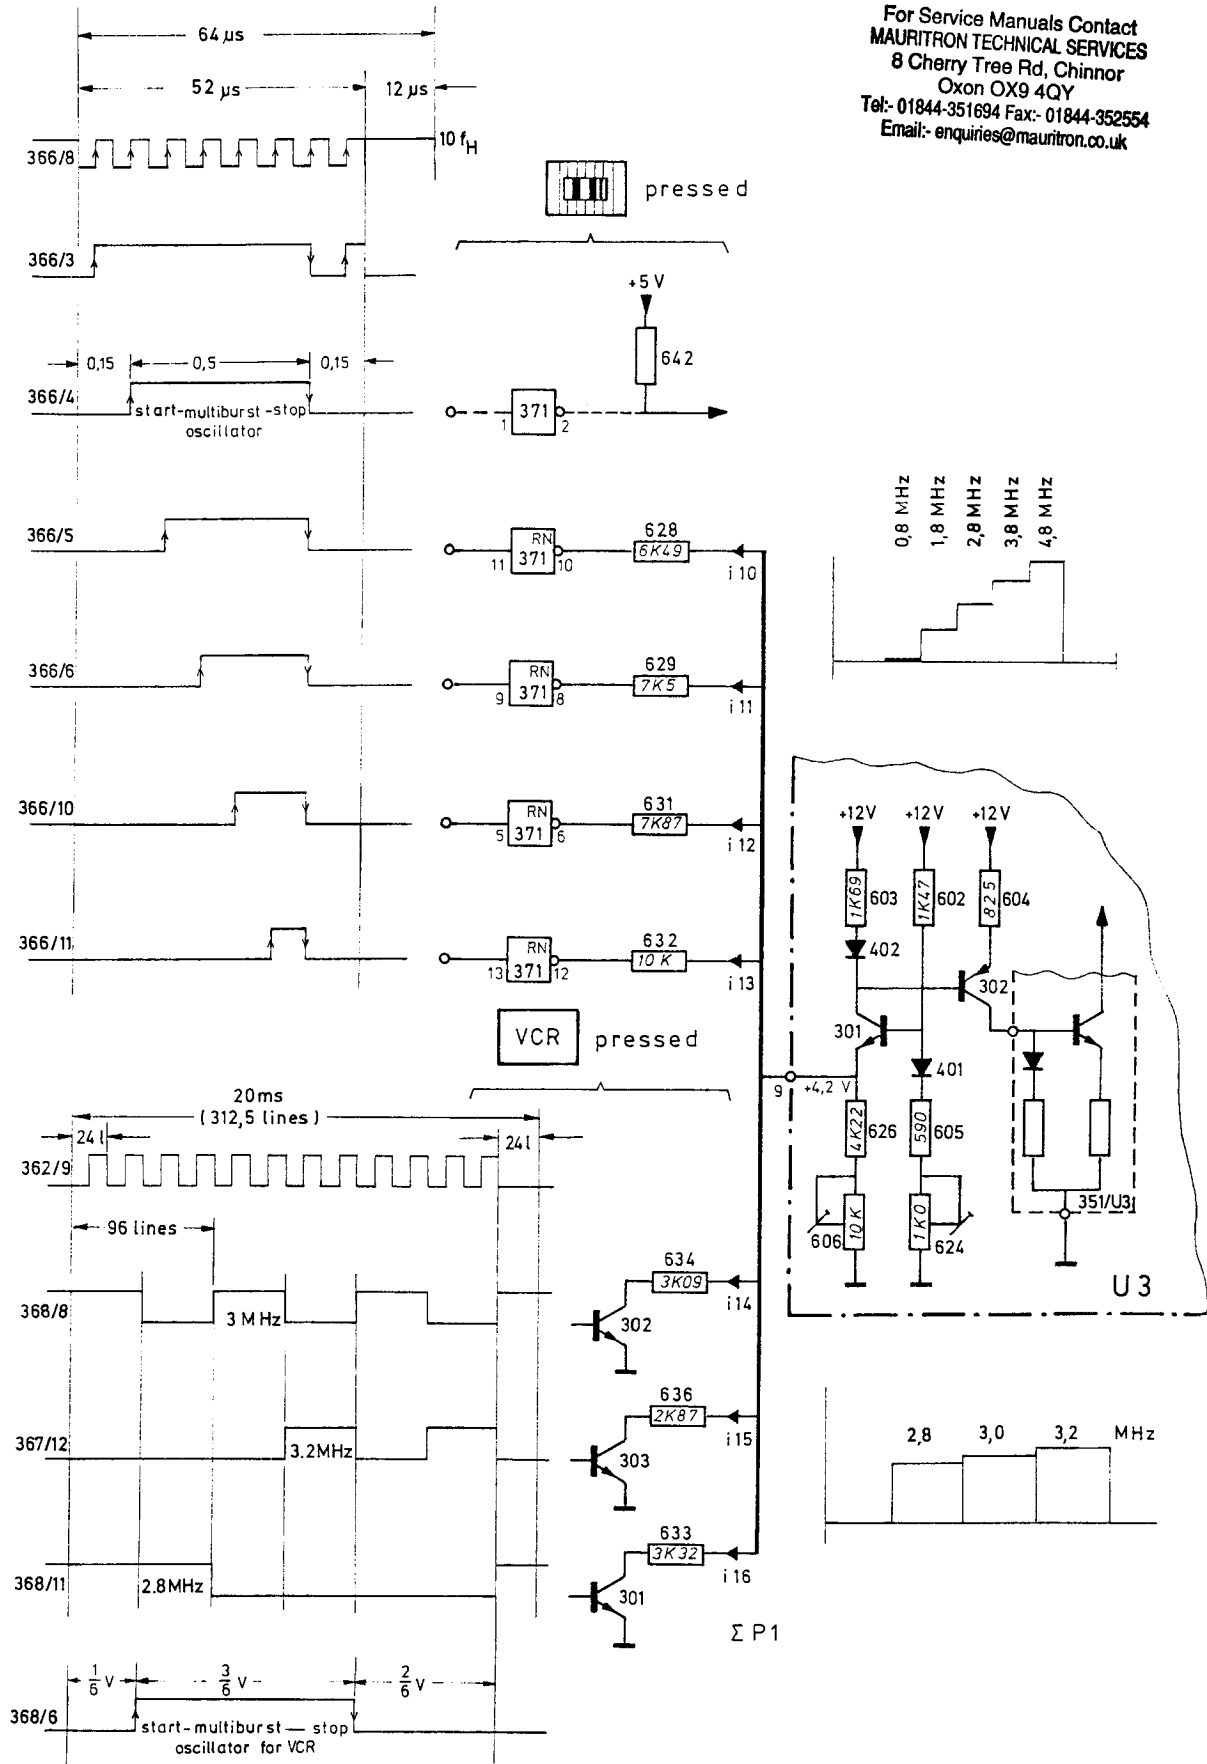
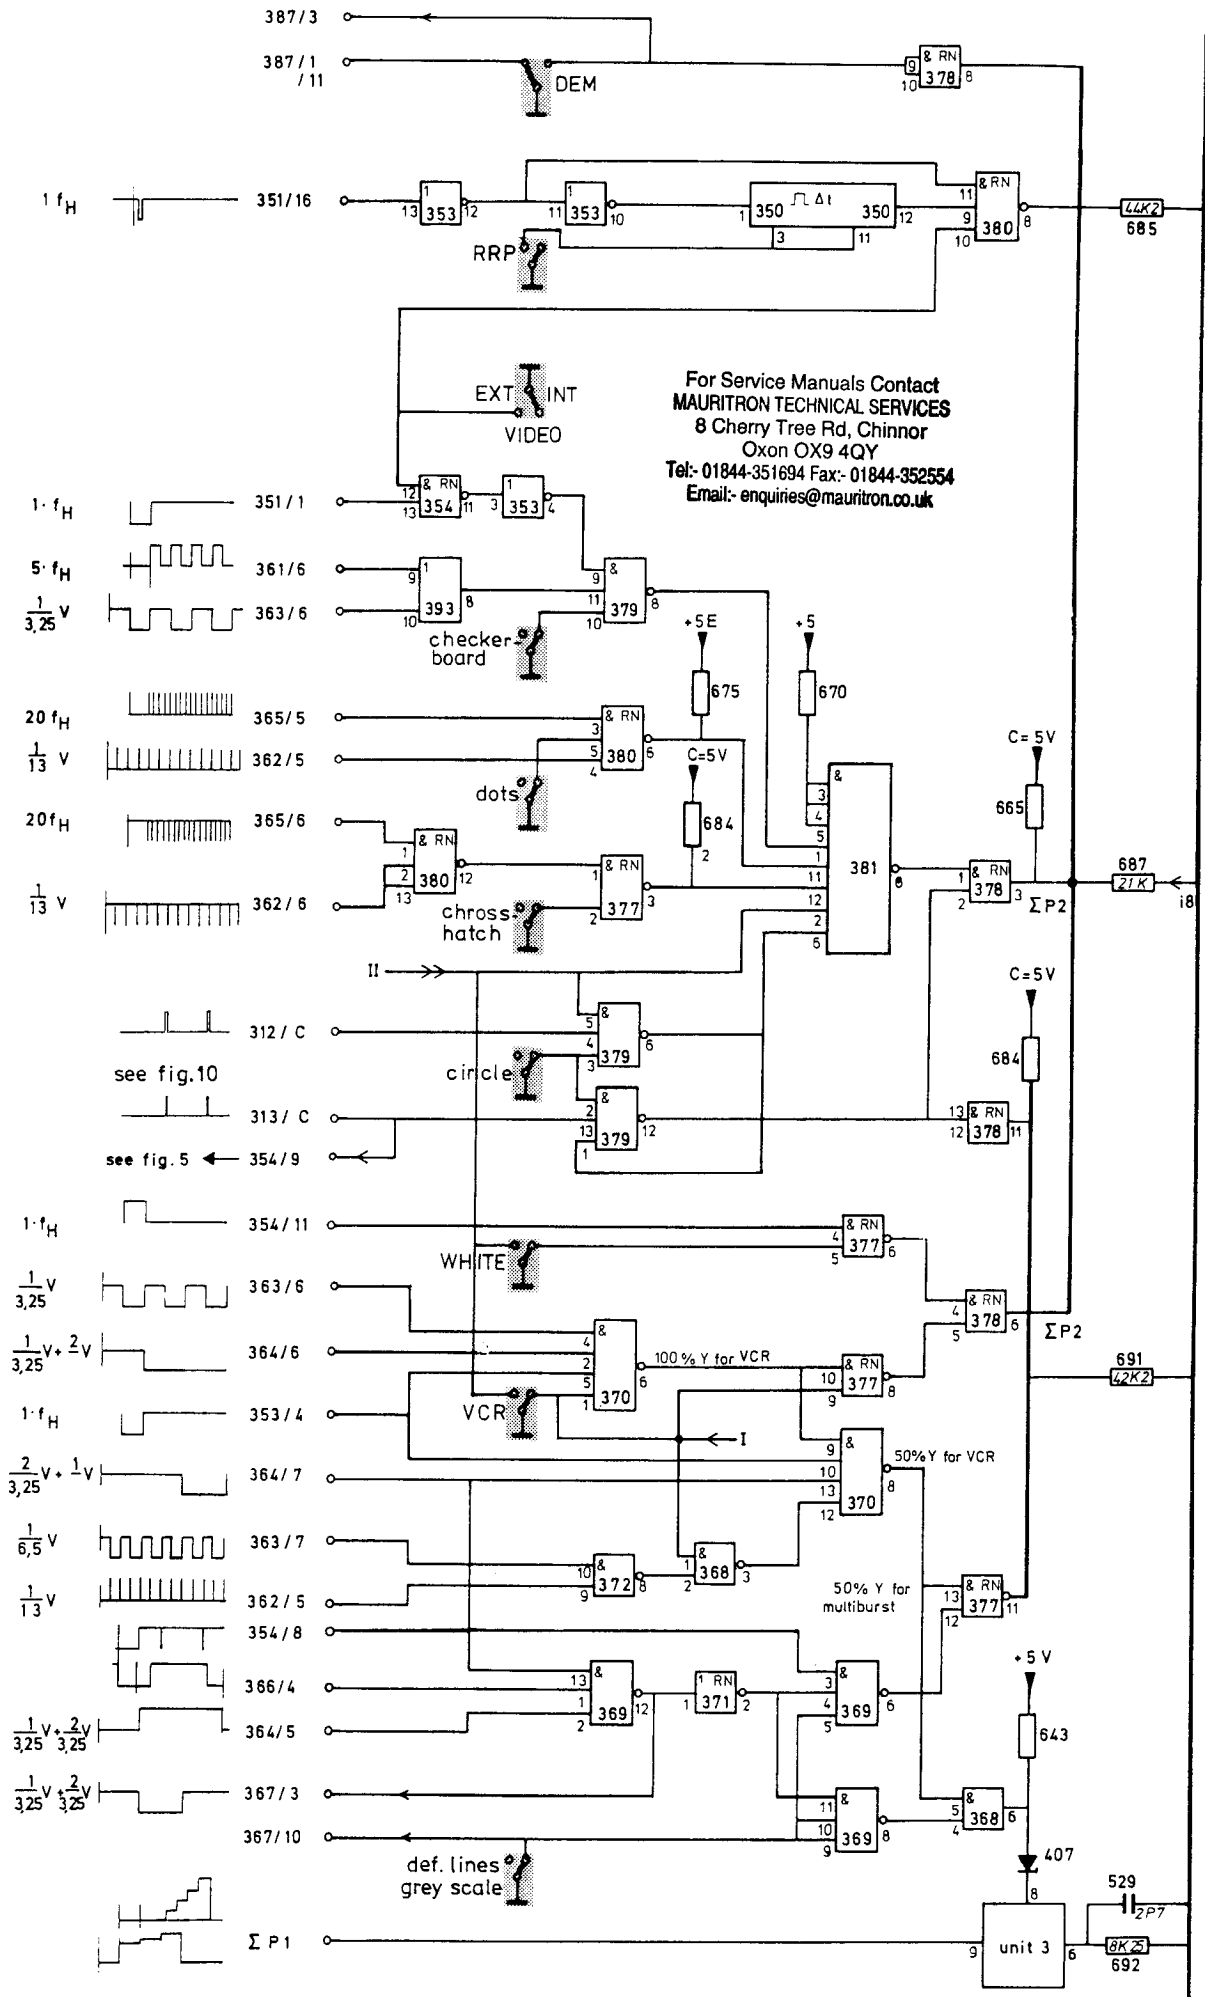

Fig. 9 Control signals for multiburst oscillator
Fig. 11 Digital addition of the BL/WH pattern
The staircase signals for control of the multiburst oscillator, input unit 3 in fig. 9, are generated by summing the components of the generator 366/4/5/6/10/11 for the 5 vertical bars with different frequency groups (definition lines).
- 2.2.4.1. **In line rhythm** the inputs of the inverters 371/11/9/5/13 progressively receive H-level and thus 'switch' the concerning resistors, connected to the summing point  $\Sigma P1$ , via 371/... single-ended to ground. By this the summing point, being at a dc level of 4.2 V, is deprived of current, compensated by the input stage. In principle this input circuitry of the multiburst oscillator is a current/voltage/current converter, fig. 9.
The pulses which generate the stepwise increasing current into pin 9/U3 are shown in fig. 9. Just as this current the multivibrator frequency changes too (5 groups or 3 groups).
### 2.2.6. Synthesis of the Black/White test patterns, figs. 11 and 12
Fig. 11 shows the connections between the required components for activation and inhibition of the chosen test pattern and the connection to the digital summing junction  $\Sigma 2$ . This summing junction  $\Sigma 2$  is connected to the main summing junction  $\Sigma 3$  via the resistor 687/U10, determining the amplitude. The potential of  $\Sigma 3$  is +5 V; 100 % White means no current through resistor 687/U10 and high level at  $\Sigma 2$ .
The gates 379/6, 380/6, 377/3 (see fig. 11) are inhibited, because of low level at one input of each gate. The NAND-gate 381/8 couples the square wave signals  $5 f_H$  (393/9) and  $1/3.25 V$  (393/10) to the summing junction  $\Sigma 2$ , if no other pushbutton (VCR, white) is depressed. The AND-gate 393/8 combines the horizontal checkerboard pulses  $5 f_H$  with the vertical  $1/3.25 V$  pulses to 8 vertical checkerboard-bars and 6 horizontal one's. White pattern squares are generated, if  $5 f_H$ ,  $1/3.25 V$  and the blanking signal  $f_H$  have high level. So the NAND-gate 379/8 gets low level, NAND-gate 381/8 high level and the current in resistor 687/U10 is inhibited.
The gates 381 and 378/3 are combining the circle pulses with all test-pattern signals generated in this section (fig. 11). In the white squares of the checkerboard circle pulses 312/C are engraved by 379/6 (pulse width 312/C being larger than 313/C). In this engraved black circle the white circle 313/C is added by 379/12 and 378/2.
The NAND-gates 370/6, 377/8 and 368/3 are inhibited by the VCR switch (see fig. 11); the output level is high. By combination of the vertical signals 364/7 and 364/5 the vertical start-stop signal for the multiburst oscillator in 368/6 is generated. The horizontal start-stop signal is given by the signals in fig. 9. The composite blanking signal 353/4 stops the luminance during the blanking time. Above mentioned signals are combined with the composite blanking signal 354/8 (signal includes the circle blanking, if circle push-button is depressed) to the 50 % -Y signal (luminance) in the NAND-gate 377/11. The current 50 % -Y is coupled by resistor 691/10 to  $\Sigma P2$ . The grey scale is described in 2.2.4.3.
The summing junction  $\Sigma P2$  has low level via AND-gate 378/8, fig. 11.
The depressed VCR pushbutton (fig. 11) enables the NAND-gates 370/6, 377/8 and 368/3 and disables the NAND-gates 379/6 and 381/8. The signals 363/6 and 364/6 are combined in 370/6 to a 1/6 V pulse, which switches the 100 % white to  $\Sigma P2$ . The following 3 horizontal bars are separated by a "one-line"-blanking pulse (black luminance). This special signal is generated by combination of the signals 363/7, 362/5, 364/7 and 353/4 and helps to see the limits between the 3 horizontal bars of frequency groups (2.8, 3.0 and 3.2 MHz). The required composite-blanking signal 354/8 (signal includes circle blanking pulses, if pushbutton "circle" is depressed) is coupled via the NAND-gate 369/6.